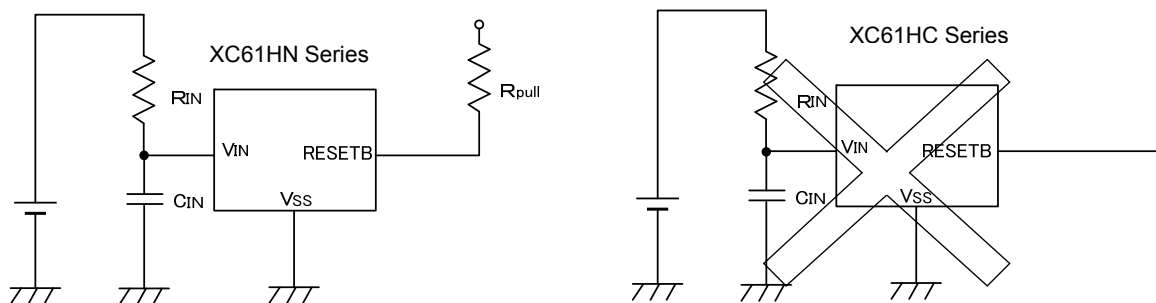

Figure 1 Use of input resistor R_{IN}
2. When a resistor is connected between the V_{IN} pin and the input with CMOS output configurations, irregular oscillation may occur as a result of voltage drops at R_{IN} if load current (I_{OUT}) exists. It is therefore recommend that no resistor be added. (refer to Figure 1 below)
3. When a resistor is connected between the V_{IN} pin and the input with CMOS output configurations, irrespective of N-ch output configurations, oscillation may occur as a result of shoot-through current at the time of voltage release even if load current (I_{OUT}) does not exist. (refer to Figure 1 below)
Further, please ensure that R_{IN} is less than 10k and that C_{IN} is more than 0.1 μ F (Figure 1). In such cases, detect and release voltages will rise due to voltage drops at R_{IN} brought about by the IC's supply current.